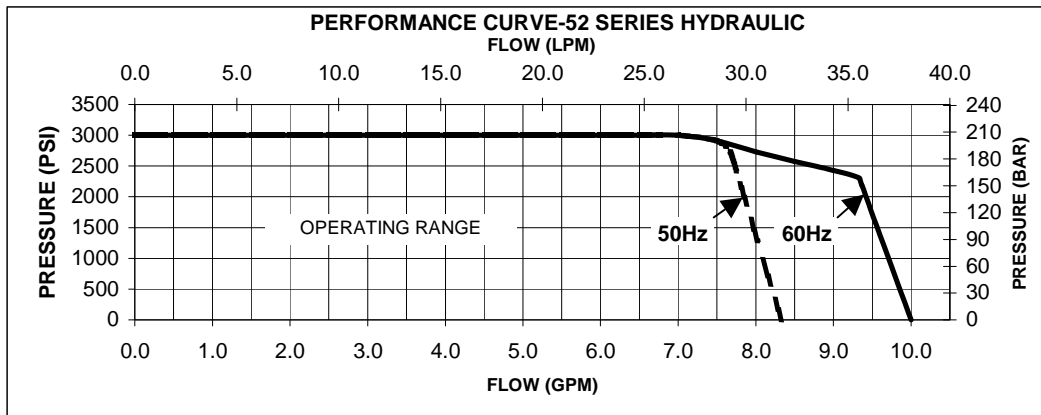

FIGURE 6.2.3 – Performance Curve (50 Hz and 60 Hz)
- Performance Curve for 50 Hz and 60 Hz Reference **Figure 6.2.3**